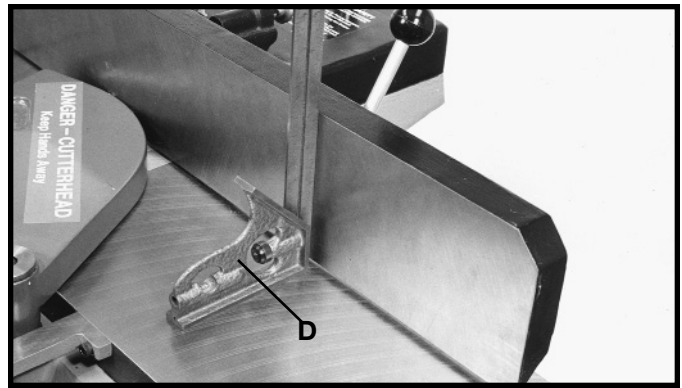

Fig. 34
2. Using a square (D) Fig. 34, check to see if the fence is at 90 degrees to the table, as shown.